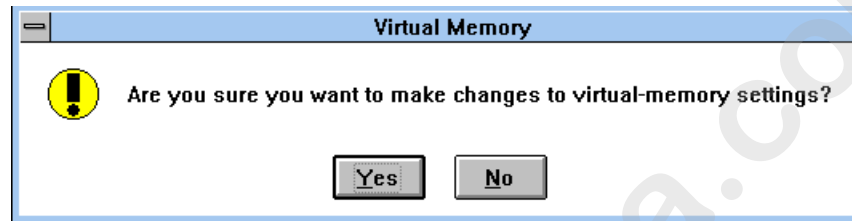

Figure 1.23. Change Virtual Memory Settings Dialogue Box
5. Click the **Change>>** item to expand the **Virtual Memory** dialogue box. Refer to Figure 1.23
9. Click the **OK** button. This brings up the **Change Virtual Memory Settings** dialogue box. Refer to Figure 1.23.